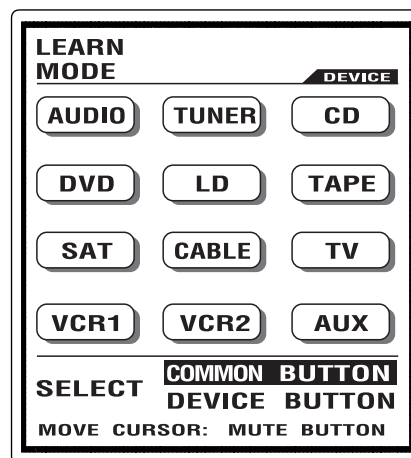

Figure 13
2. Move the cursor to 4. LEARNING with the joystick and then push the joystick down to enter the learning mode. Refer to figure 13.